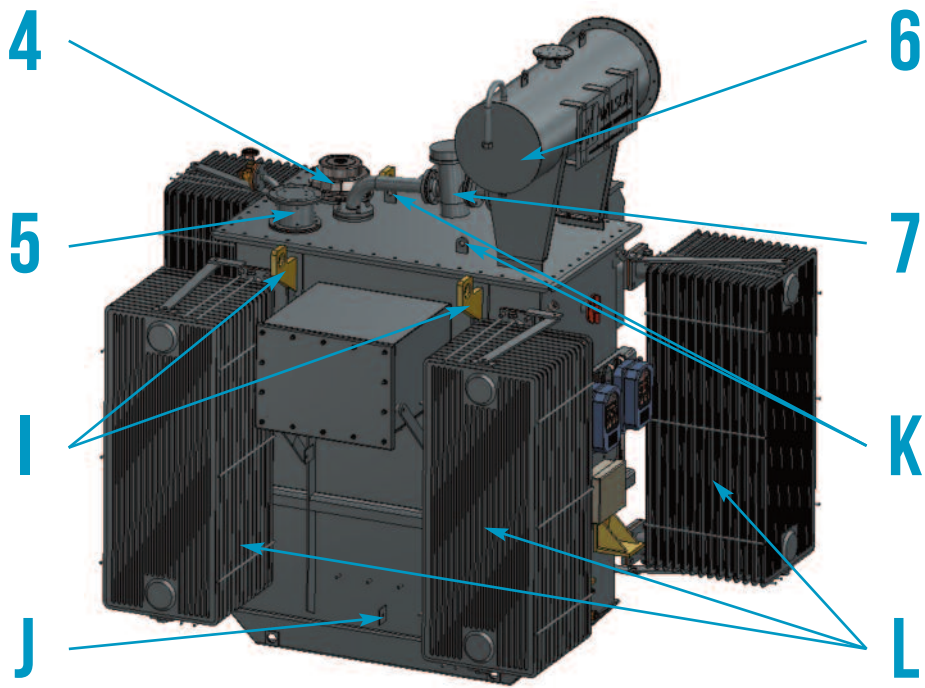

Figure 1b - Transformer View from LV Side
- I. Transformer lifting eyes (Figure 1b)
- J. Tank earthing terminals (Figure 1b)
- K. Transformer lid lifting eyes (Figure 1b)
- L. Radiators (Figure 1b)
4. Pressure relief device (PRD) (Figure 1b)
5. Current transformer connection box (Figure 1b)
6. Conservator (Figure 1b)
7. Buchholz relay (Figure 1b)